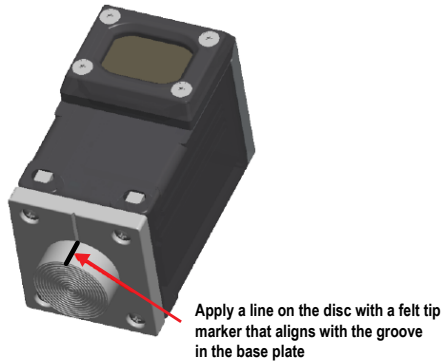

Figure 10. Place a mark on the disc
- Using a felt marker, place a mark on the disc that aligns with the machined groove on the base plate. This marks the proper alignment of the Q45VA Sensor Node on your asset and aids in proper alignment if the Q45VA Sensor Node needs to be replaced in the future. See Figure 10 on p. 3.